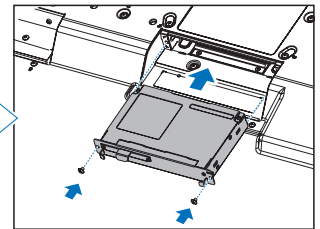

Figure 4
4. Insert the Option Board into the monitor and fix it in place with the removed screws (**Figure 4**). (Recommended Fasten Force: 139 - 189 N•cm).